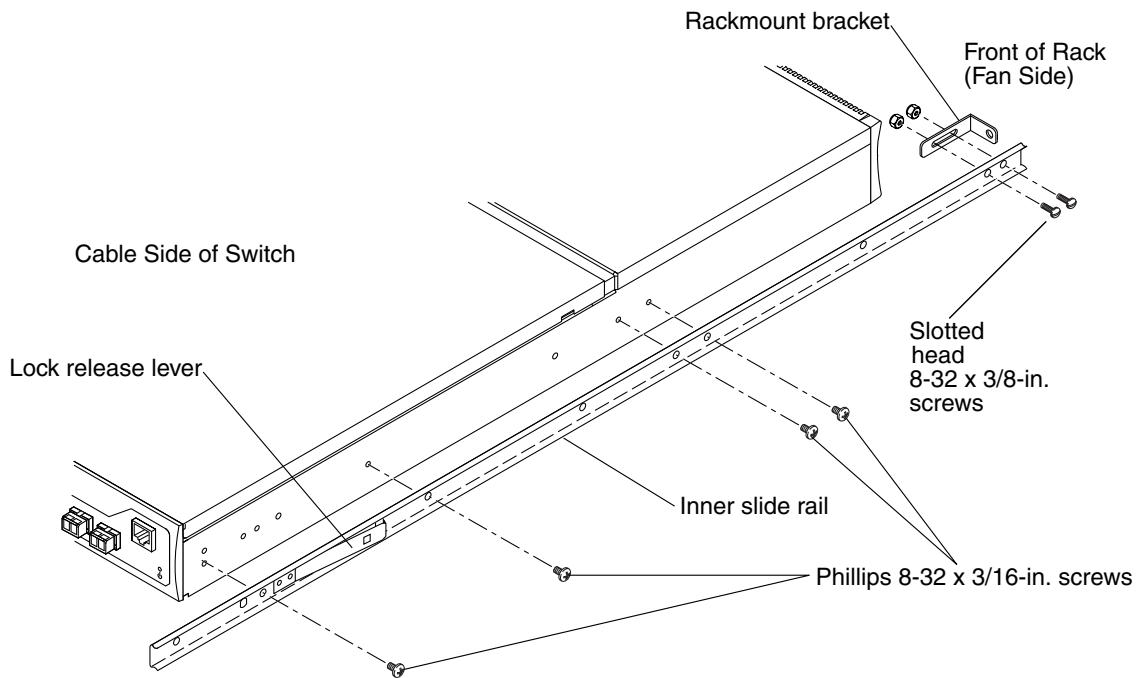

FIGURE 2-1 SilkWorm 3800 Switch Inner Slide Rail Installation
- a. Position a rackmount bracket at the end of the inner slide rail (the end that does not contain the lock release lever), as shown in FIGURE 2-1.
To allow the power supply side of the 3800 switch to slide out of the front of the rack, orient the rail as shown in FIGURE 2-1, with the end containing the lock release lever toward the cable side of the 3800 switch.